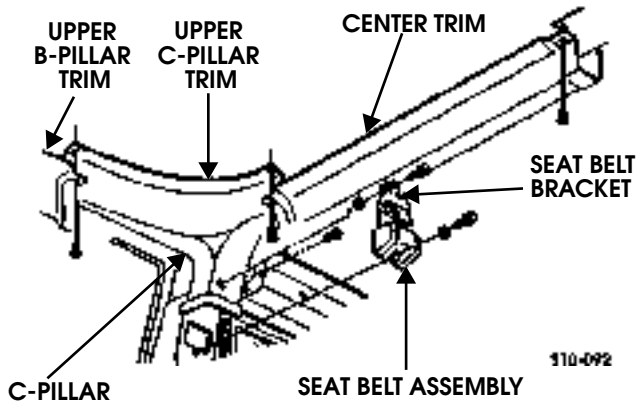

Figure 10-46: C- and B-Pillar Trim Component Identification
2. Remove bolts, washers, upper seat belt bracket, and seat belt assembly from C-pillar (Figure 10-46).